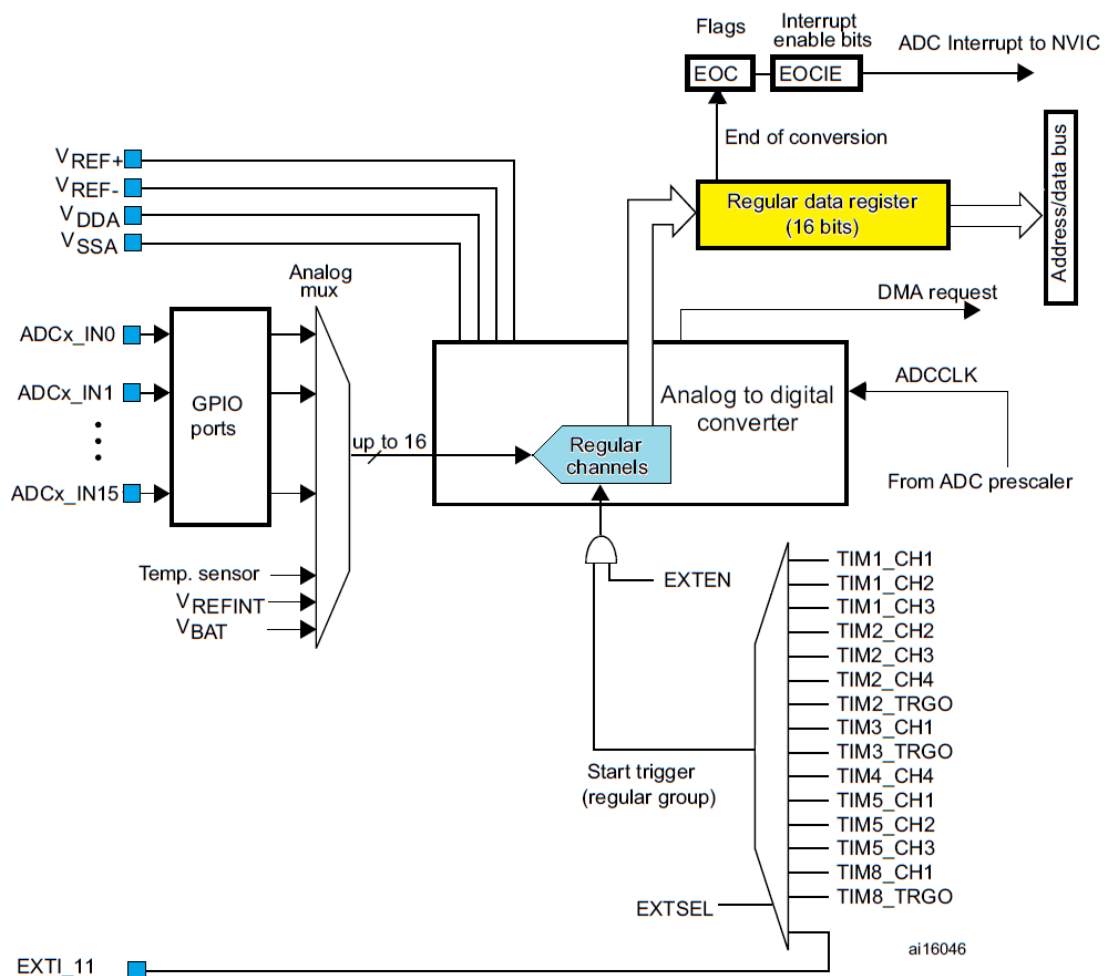

Figure 8.1: The block diagram of a single ADC
A simplified block diagram for one ADC block is given in Fig. 8.1 (excerpt from Fig. 44, RM0090, page 387). The complete ADC block includes two more ADCs with similar features and additional settings.
- The fifth member '`.ExternalTrigConv`' selects one of the 16 signals to be used as trigger event by configuring the multiplexor below the ADC, Fig. 8.1. All possible options are listed in the header file, lines 256 to 271. It is not necessary to initialize this member in this example since we disabled the external trigger in line 22 and by this selected the software trigger, but the line 23 remains there for reference.